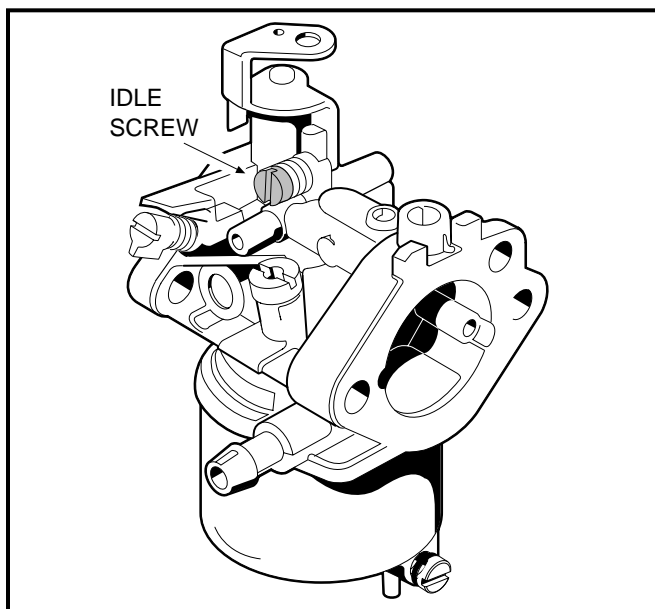

Figure 14-13 Idle Screw
1. Loosen the carburetor idle screw so that it is not touching the throttle lever (**Figure 14-13, Page 14-13**).